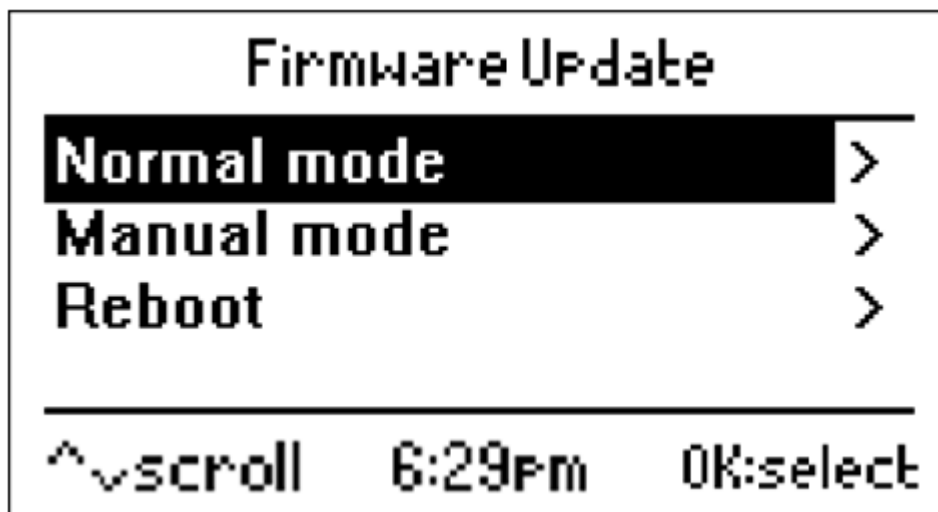

Figure 10 Select "Normal mode"
8. Scroll down and select "Normal mode" if you want to let the bootloader determine which modules can be updated (see Figure 10) or